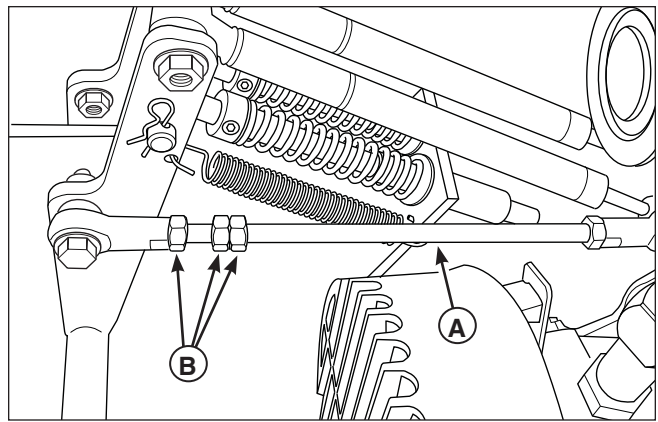

Figure 40. Neutral Adjustment
2. There are three nuts (B, Figure 40) on the linkage rod. The first two are to be used together to turn the rod and the third (towards the front of the machine) is used to lock the rod in place. Loosen the jam nut that locks against the ball joint (B, Figure 40) and turn the linkage rod (A) to adjust. If the machine creeps forward, turn the rod CLOCKWISE (while standing at the rear of the machine, facing forward), if the machine creeps backward, turn the rod COUNTER-CLOCKWISE.
3. Lock the jam nut (B) against the ball joint when neutral is achieved.